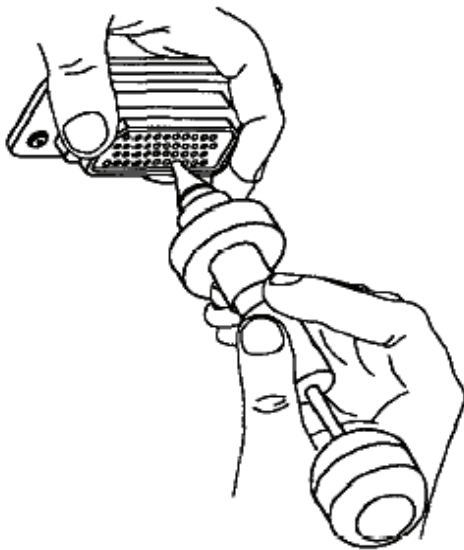

Figure 24. Unlocking Contact Retention Mechanism with Unwired Contact Removal Tool.
e. Insert removal tool tip into contact cavity to butt contact wire barrel; then slide removal tool sleeve over contact and exert pressure until sleeve bottoms (Figure 24)